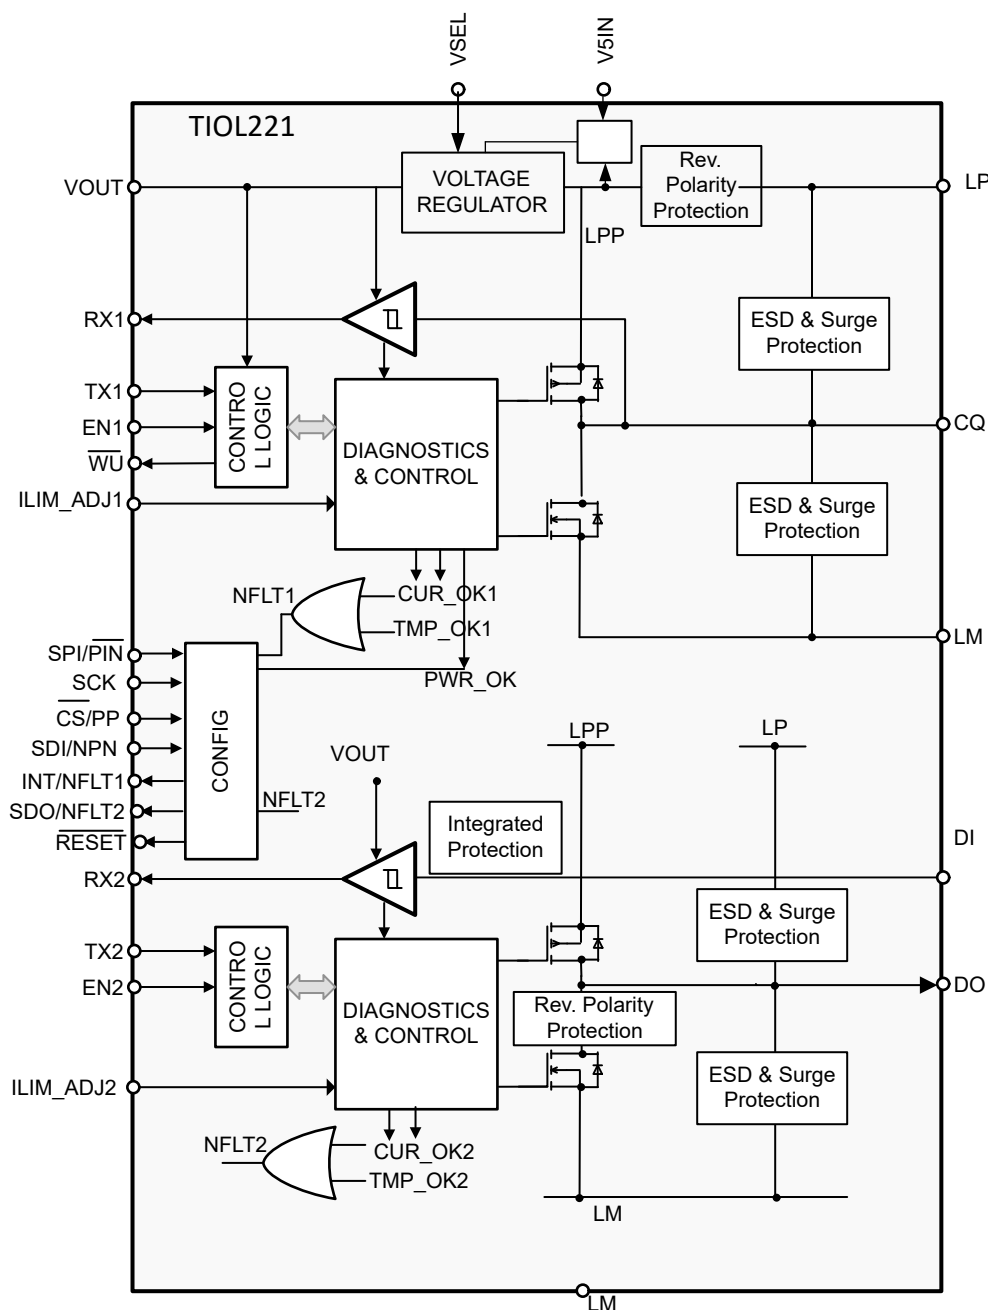

Figure 7-1. Block Diagram
Figure 7-1 shows the functional block diagram of TIOL221. The device has an IO-link compatible channel (CQ), a digital output driver (DO) and a digital input (DI) interface. The drivers at CQ and DO can be used in either push-pull, high-side driver (PNP), or low-side driver (NPN) configuration using the $\overline{CS}/PP$ and SDI/NPN pins in the pin-mode or via the serial peripheral interface (SPI). The internal receiver on the CQ line converts the 24V signal to standard logic levels on the receiver data output pin, RX1. Similarly, internal receiver on the DI line converts the 24V signal to standard logic levels on the receiver data output pin, RX2. A simple parallel interface is used to receive/transmit data and status information between the device and the local controller.